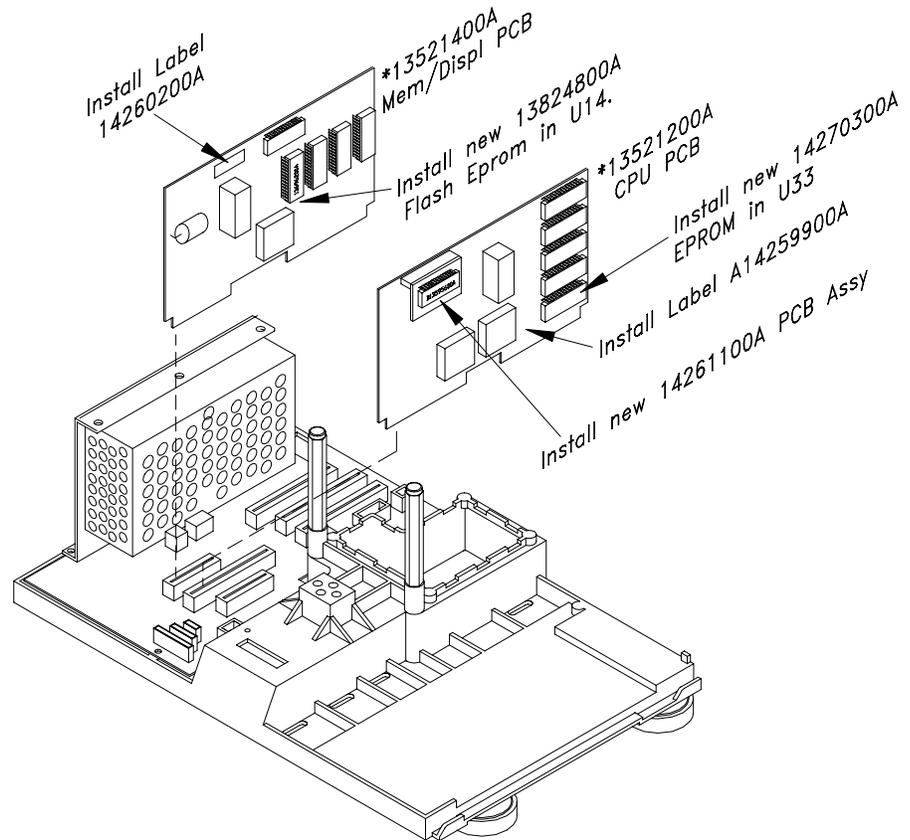

Figure 3-10 Installing Conversion Components
2. Remove CPU PCB from the Mother PCB. Replace the EPROM PCB with the 14261100A (Figure 3-10.)
5. If a 0977-0020 Kit is to be installed, install the kit then skip this step and the next step. Otherwise, remove the Satellite Memory/Display PCB (*13521400A) from the Mother PCB. Remove the existing EPROM from the socket U14 (Figure 3-10). Install the new Flash EPROM P/N *13824800A in socket U14 (orientation notches must line up on socket and Flash EPROM).